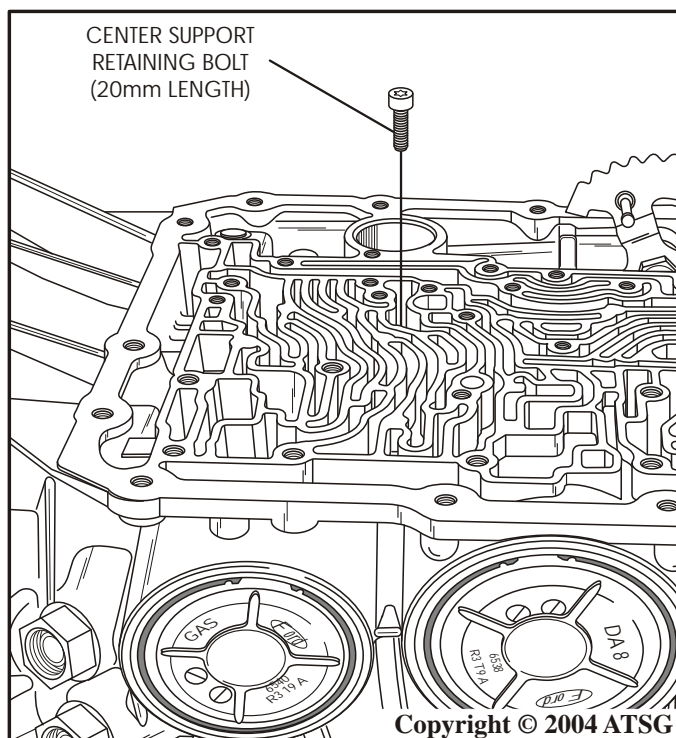
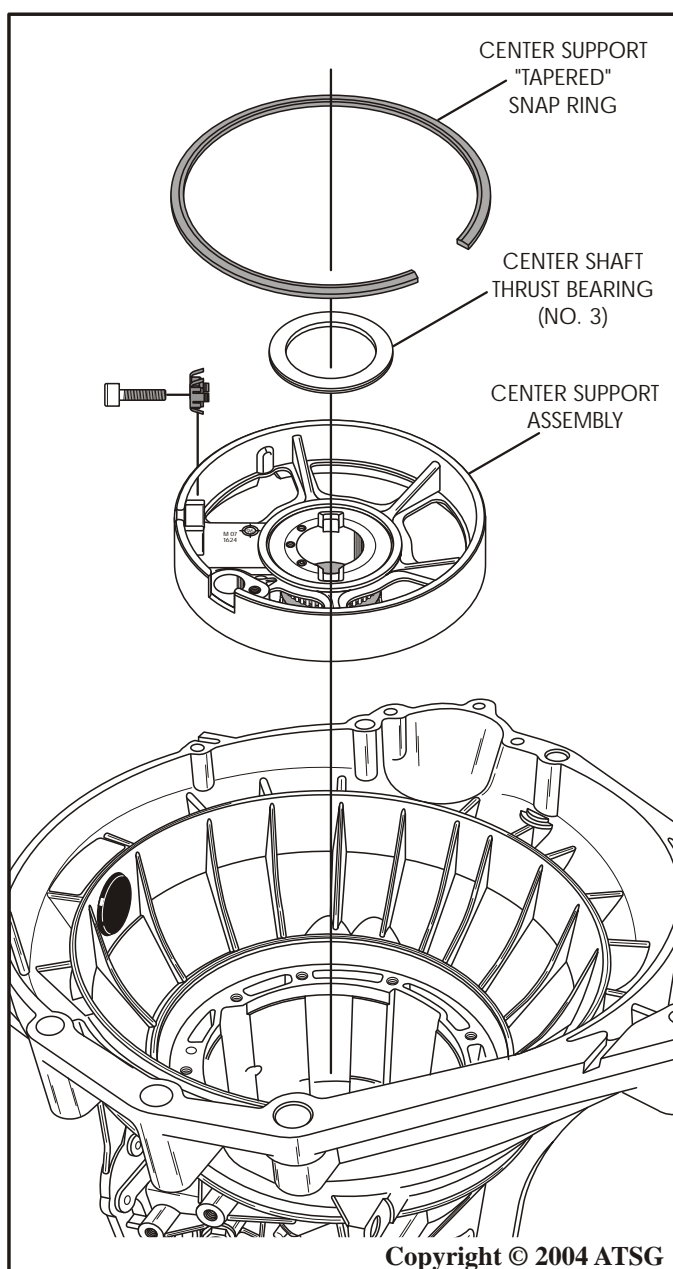

Figure 41
Figure 42
35. Now, remove the center support retaining bolt from the case, as shown in Figure 41, and also remove the locknut, as shown in Figure 42, to prevent it from falling into the assembly.
36. Remove the center support retaining snap ring from the case, as shown in Figure 42.
37. Remove center shaft thrust bearing (No. 3) from the center support, as shown in Figure 42 and tag it for I.D. and location.